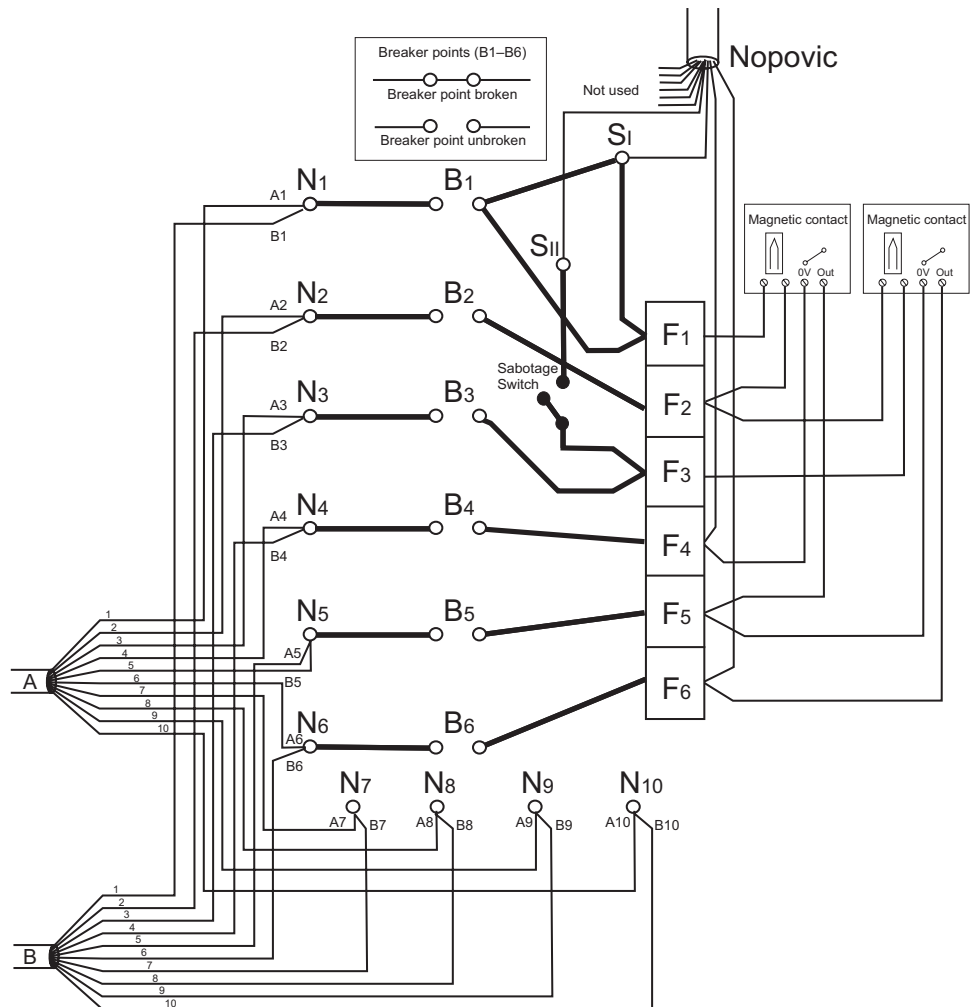

Figure 4: Diagram for application 2. Maximal combination
Installation procedure (see Figure 4):
- Break all breaker points – B1–B6 (as illustrated in Figure 4).